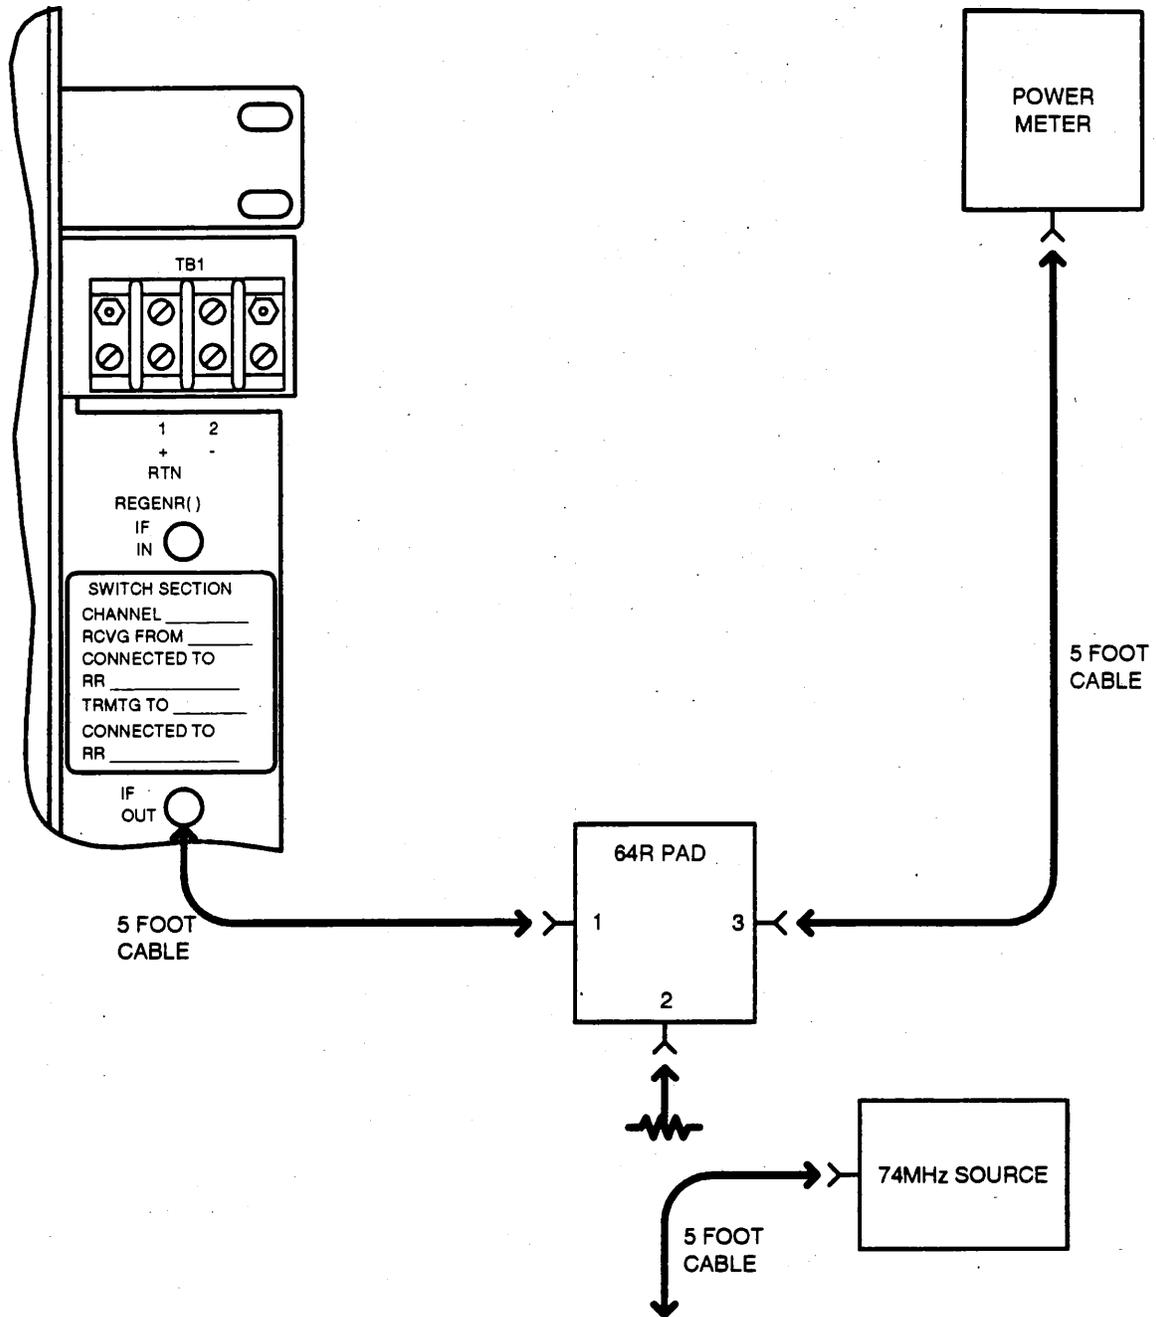

Figure 1 - "S" (IF Signal) Power Level Measuring Connections
- Refer to Figure 1.
6. Measure the "S" (IF signal) power level (Figure 1).
- a. Establish the test connections shown in Figure 1.